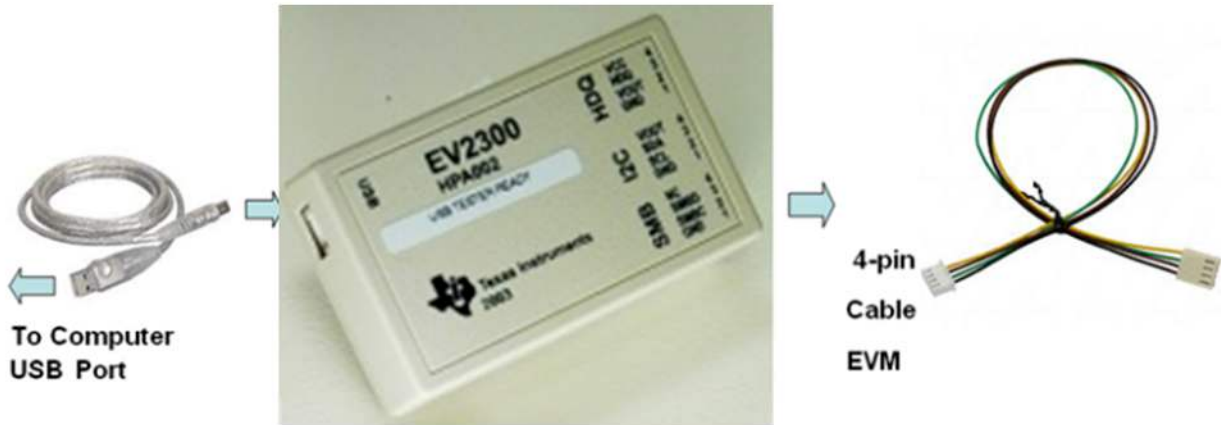

Figure 1. Connections of the EV2300 Kit
4. Connect the EV2x00 USB interface board to the computer with a USB cable and from I²C port to J6 with the 4-pin cable. The connections are shown in Figure 1.